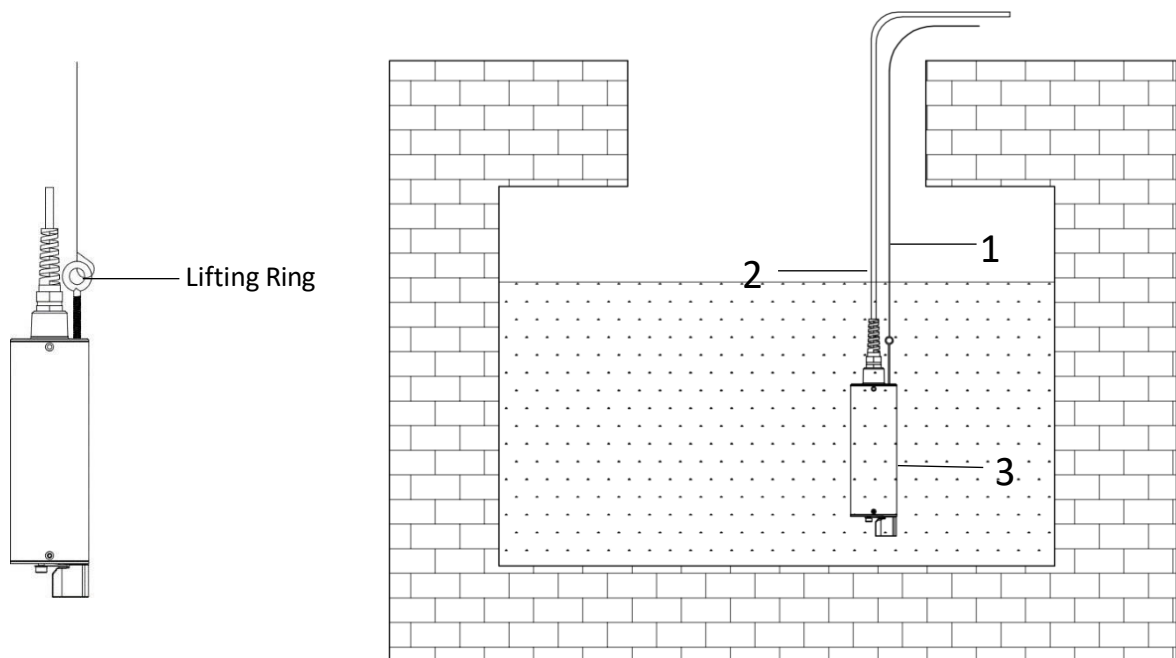

Figure 3 - Submersed Installation Using the Lifting Ring
**Submersed Installation with Lifting Ring:** The LT-635 sensor comes equipped with a lifting ring which allows the sensor to be lifted and lowered using a user provided chain or cable. This method of installation enables use of the LT-635 in clarifier or thickener sludge bed depth profiling. Users may mark measurement increments on the user provided lifting chain/cable and the LT-635 sensor may be slowly lowered into the clarifier/thickener. When a drastic increase in suspended solids measurement is observed, the sensor has been exposed to the clarifier/thickener sludge bed. The lowered distance of the sensor to this observed TSS measurement change as indicated on the marked chain/cable can be used as a reference of the clarifier/thickener supernatant (clean water). This value when subtracted from the total clarifier/thickener height may be used as a reference to the sludge bed depth. For this method of installation and use, please refer to Figure 3. For sensor replacement and maintenance, users only need to lift the chain or cable and LT-635 Sensor vertically (upwards).